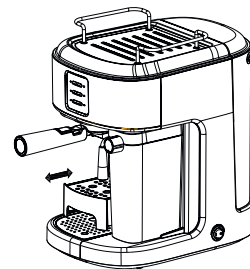

Рис. 10
- Place a corresponding cup on a respective tray (3 or 5) (fig. 10) and turn the cappuccinator pipe (2) to the cup using the bar (8).
- Switch the coffee maker on by pressing the button (14), the illumination of the buttons (23, 24 and 25) on the control panel will start flashing.
- When the illumination stops flashing, press the cappuccino button «» (24) twice.